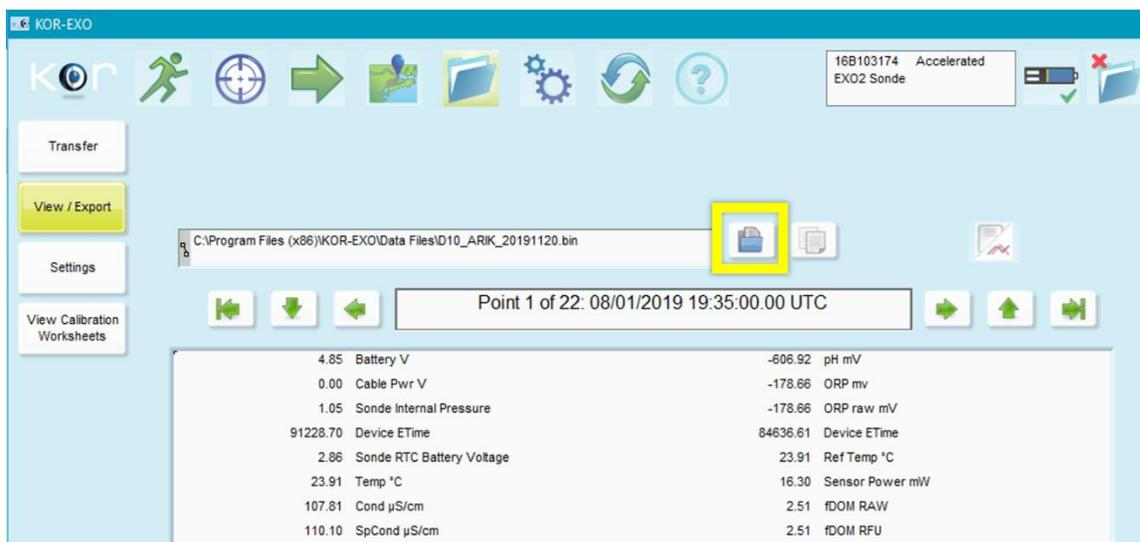

Figure 14. Select the Smaller Blue Folder Icon to Select the Log File to Download
3. Select the file you wish to download by clicking the smaller blue folder icon (Figure 14).